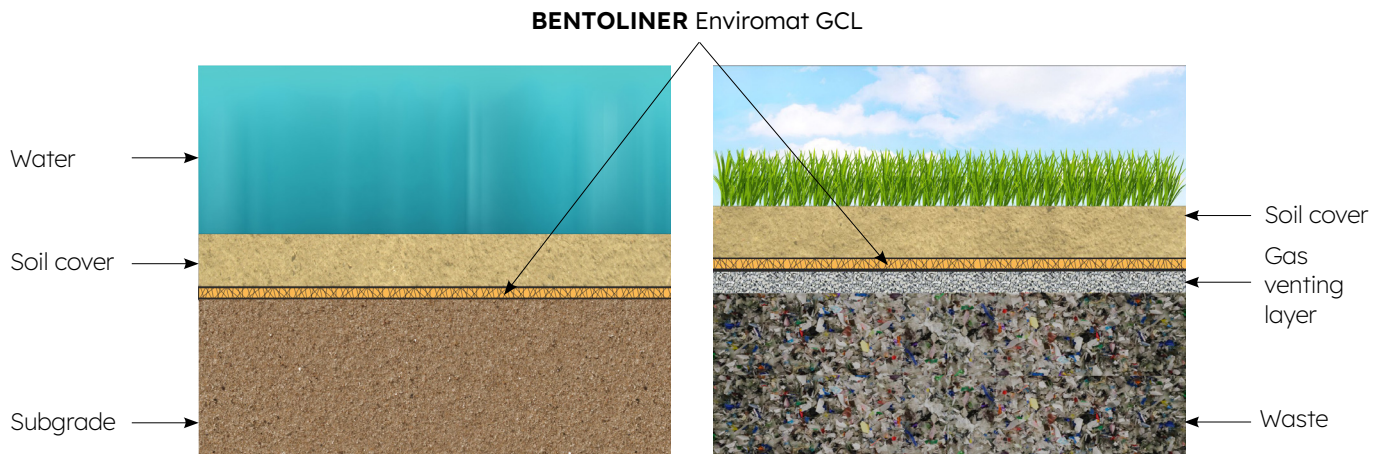

Figure 2: Typical applications of BENTOLINER Enviromat GCL's (a) Pond lining (b) Landfill capping
**BENTOLINER** Enviromat GCL is used in various applications, such as pond lining, landfill base liners and capping, vertical trench cut-off barriers, groundwater protection covers (see Figure 2).